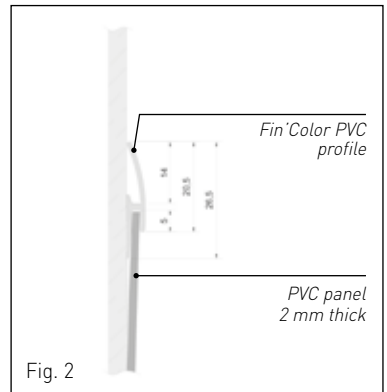

Fig. 2
- Check the glue's open time by placing a fingertip against different parts of the glued surface. If filaments appear when the finger is withdrawn, the required open time has been achieved. When the open time has been reached, the glue will retain its adhesive power for 15 to 40 minutes* (see Fig. 2).
Horizontal finishing on top of panels - J-shaped profile (see Fig. 2).
- Cut the horizontal FIN'ALU profile (J-shaped profile) to the dimensions of the wall and place the FIN'ALU profile along the top of the panels (see Fig. 2).